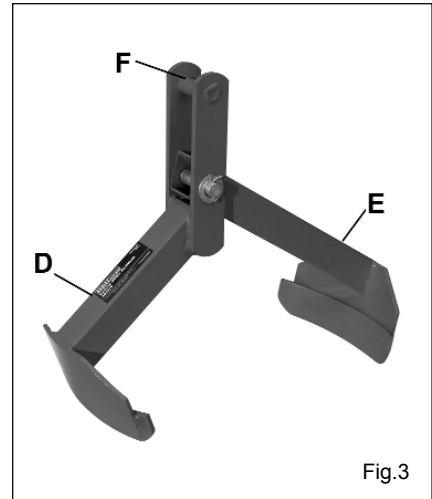

Fig.3
- 3.3 When the assembled grab is laid down it will tend to fold flat. If the grab is then picked up by hand at the lifting point 'F' (see fig.3) the grab will tend to close up. For this reason it is important to keep your hands away from the central pivot area to avoid any scissor action that could trap your hands or fingers.
- 3.4 When placing the grab onto the top of a drum lift the grab with two hands at points 'D' & 'E' (See fig.3).
- 4.1 Lift the drum grab with two hands at points D & E (See fig.3) and lay it flat across the maximum diameter of the drum (See fig.4).